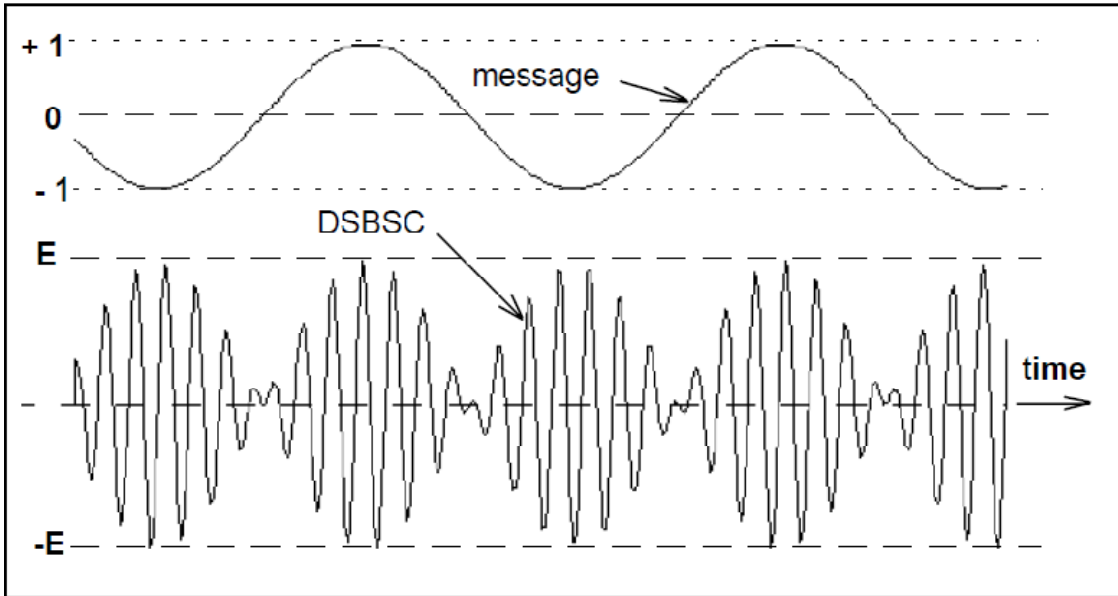

Figure 2: DSBSC - seen in the time domain
The time domain appearance of a DSBSC (eqn. 1) in a text book is generally as shown in Figure 2.
Notice the waveform of the DSBSC in Figure 2, especially near the times when the message amplitude is zero. The fine detail differs from period to period of the message. This is because the ratio of the two frequencies  $\mu$  and  $\omega$  has been made non-integral. Although the message and the carrier are periodic waveforms (sinusoids), the DSBSC itself need not necessarily be periodic.
- (e) The 180 phase reversal causes the positive (or negative) side of the envelope to have a shape different from that of the message signal, see Figure 2.